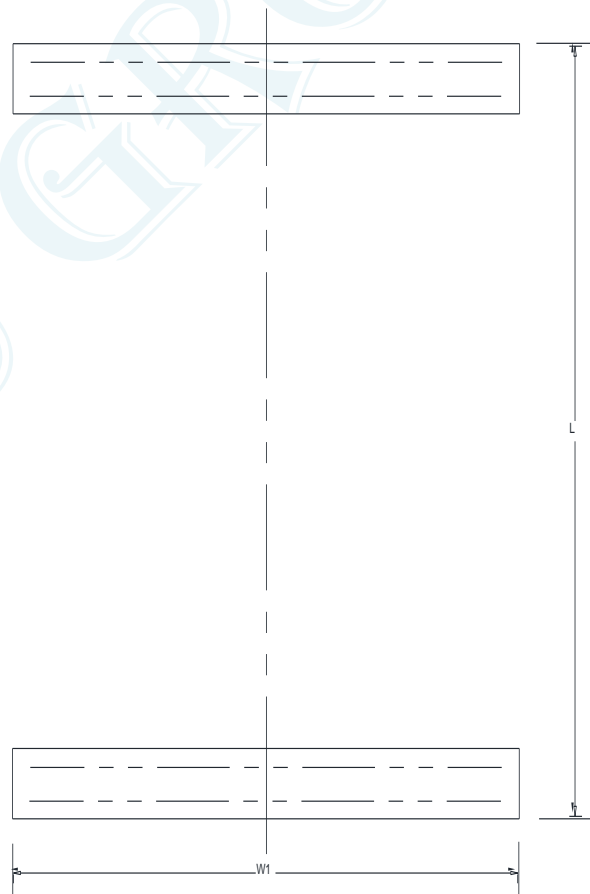

Figure 3/1 Foundation Drawing of Switchgear Installation
- The foundation of switchgear installation is shown on Figure 3/1.
#### 3.2 Erection of Switchgear (Figure 3/2 to 3/3)
- 3.2.1 The foundation dimension and erection dimension of switchgear installation are shown in Figure 3/2 to 3/3.